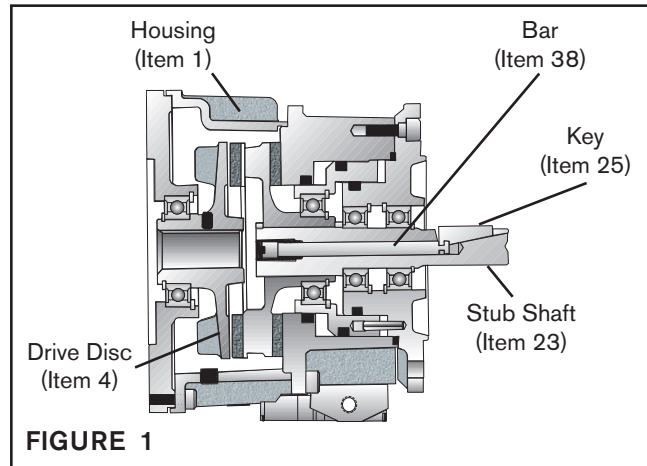

FIGURE 1
1. Coat the threads of the Bar (Item 38) with Loctite® 242; then, thread the Bar into the Stub Shaft (Item 23) until the end of the Bar is visible in the keyway slot of the Stub Shaft (See Figure 1).
2. Apply a thin film of Never-Seez® to Key (Item 25) (See Figure 1).
3. Place the Key (Item 25) into the keyway of the Stub Shaft (Item 23) (See Figure 1).
10. Align the tapped hole in the Drive Disc (Item 4) with the hole in the Housing (Item 1) (See Figure 1).